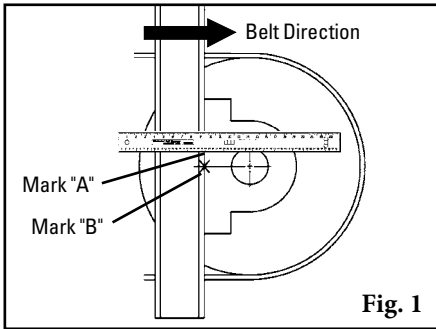

Fig. 1
- 2b. Put a level on top of the pulley shaft and draw a horizontal line A.** Measure down from Line A half the diameter of the pulley shaft and draw Line B parallel from the pulley shaft (Fig. 1).
- 2b. Put a level on top of the pulley shaft and mark A at the structure.** Measure down from Mark A half the diameter of the pulley shaft and mark B, locating the shaft centerline (Fig. 1).
- 8a. Install the Tensioning System.** With the pole rotated up so that all the tips contact the head pulley, slide a collar on each end of the pole. Position the collars tight against the bearing mounts and tighten the lock bolt and jam nut on each collar (Fig. 1).
1. **Remove tension.** Turn adjusting bolt down until a 1/8" (3mm) gap is gained at the tightest point between the tip and the belt (Fig. 1).